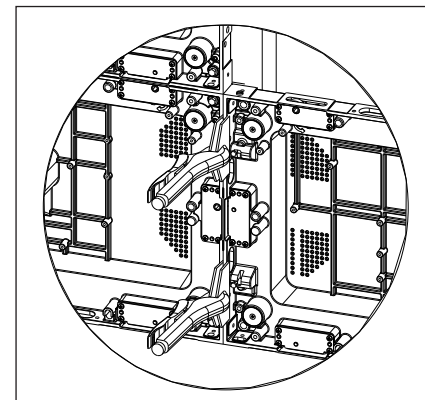

Figure 17: Clamp Panels Together
- Clamp the panels together. Refer to **Figure 17**.